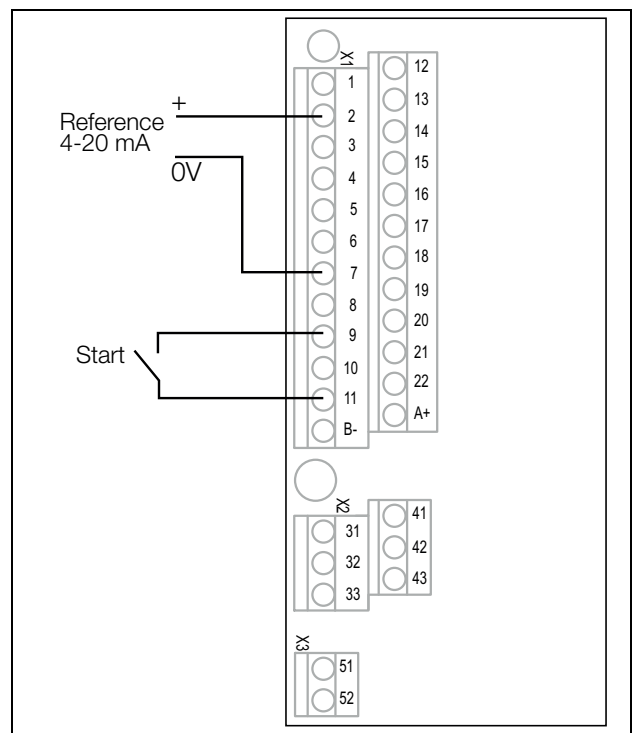

Fig. 68 Wiring.
2. Connect a reference value between terminals 7 (Common) and 2 (AnIn 1) as in Fig. 68.
3. Connect an external start button between terminal 11 (+24 VDC) and 9 (DigIn2, RUNR) as in Fig. 68.
15. Connect digital and analogue inputs/outputs as in Fig. 68.